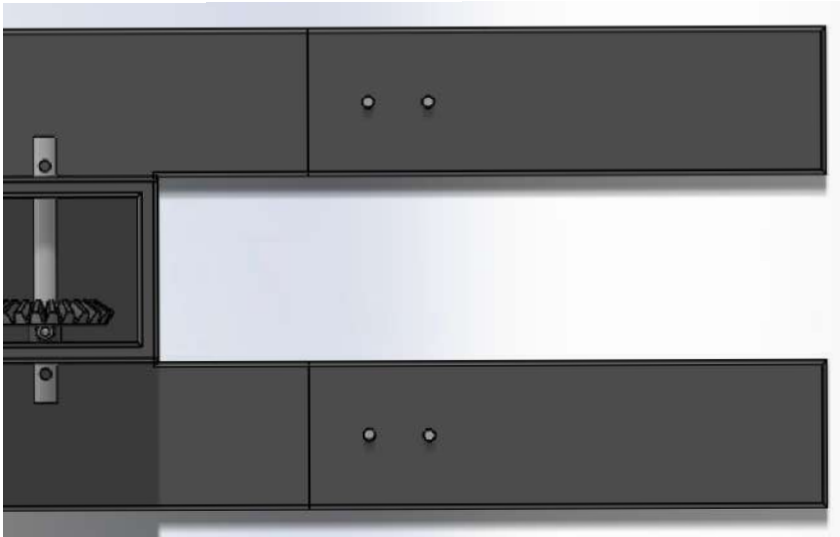

Figure 14: Adding internal components to gearbox
3. Add Gearbox to Driveshaft adapter, Crosspin, and bevel gears in the configuration illustrated in figure 14.